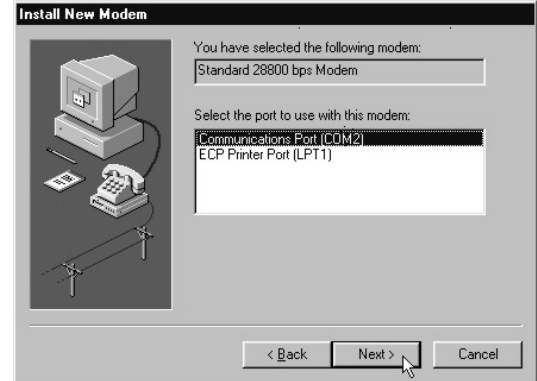

Figure 6 - Port Selection
5. Select the port to use with this modem. Click NEXT. Typically COM2 is used. (Fig. 6)